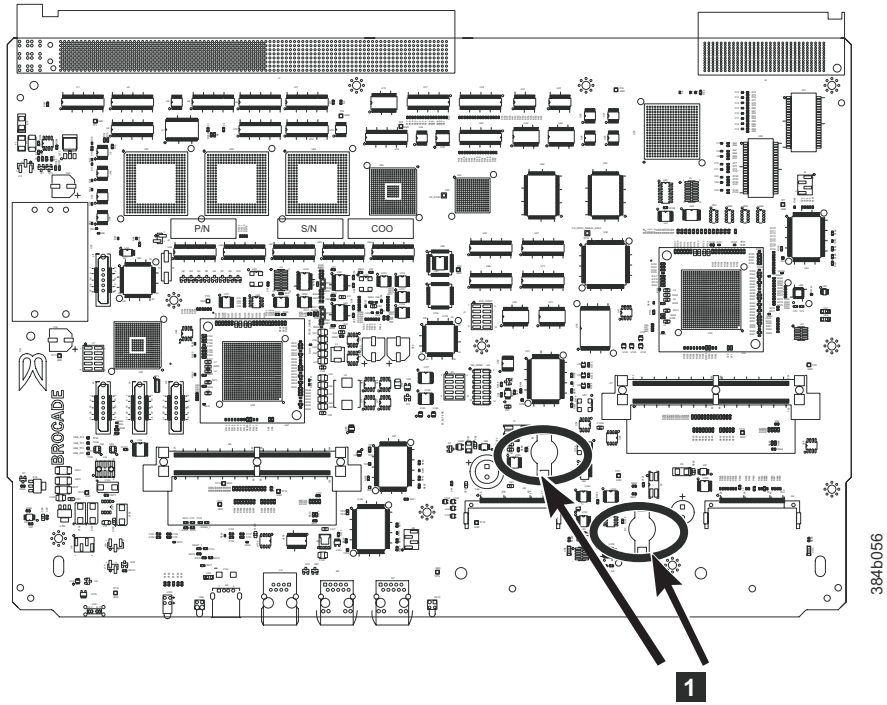

Figure 45. Battery locations on the CP8 blade
6. Go to the following locations and remove the two BR1225 batteries from each of the PCBAs (see **1** in Figure 45 on page 126):